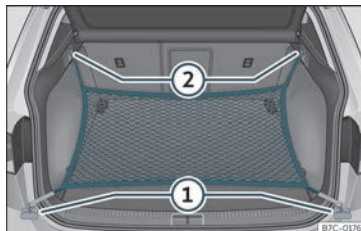

Fig. 112 In the luggage compartment: rings ① and hooks ② for attaching the net bag.
- Secure the short net hooks to the fastening rings >>> Fig. 112 ① >>> ⚠. The bag zip should be facing upwards.
- Secure the straps in the bag hooks ②.